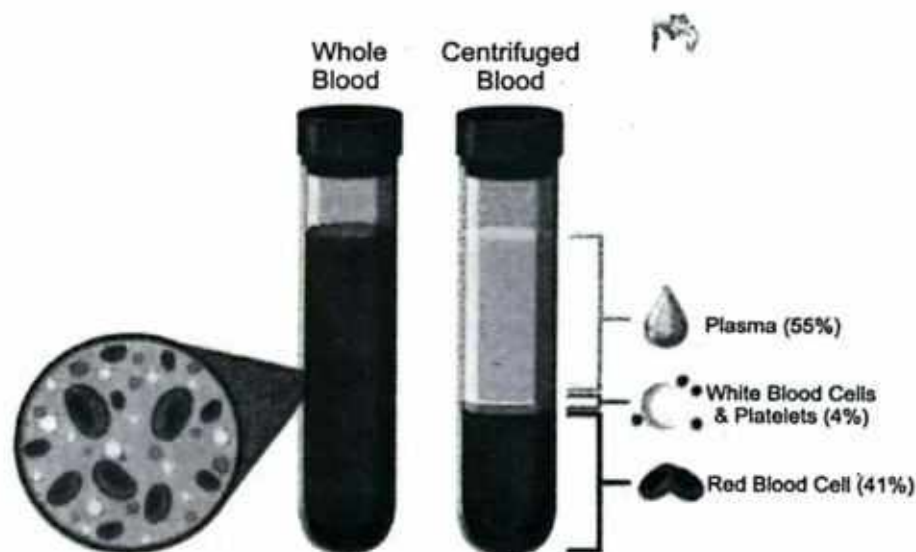

Fig. 7.25: Composition of blood
- On the basis of difference of densities of the composition of blood, different parts of blood can be separated in centrifuge for finding the concentration and other medical aspects of these components. The red blood cells having highest density accumulate at the bottom while the least dense component plasma goes to the top, as shown in figure 7.25.